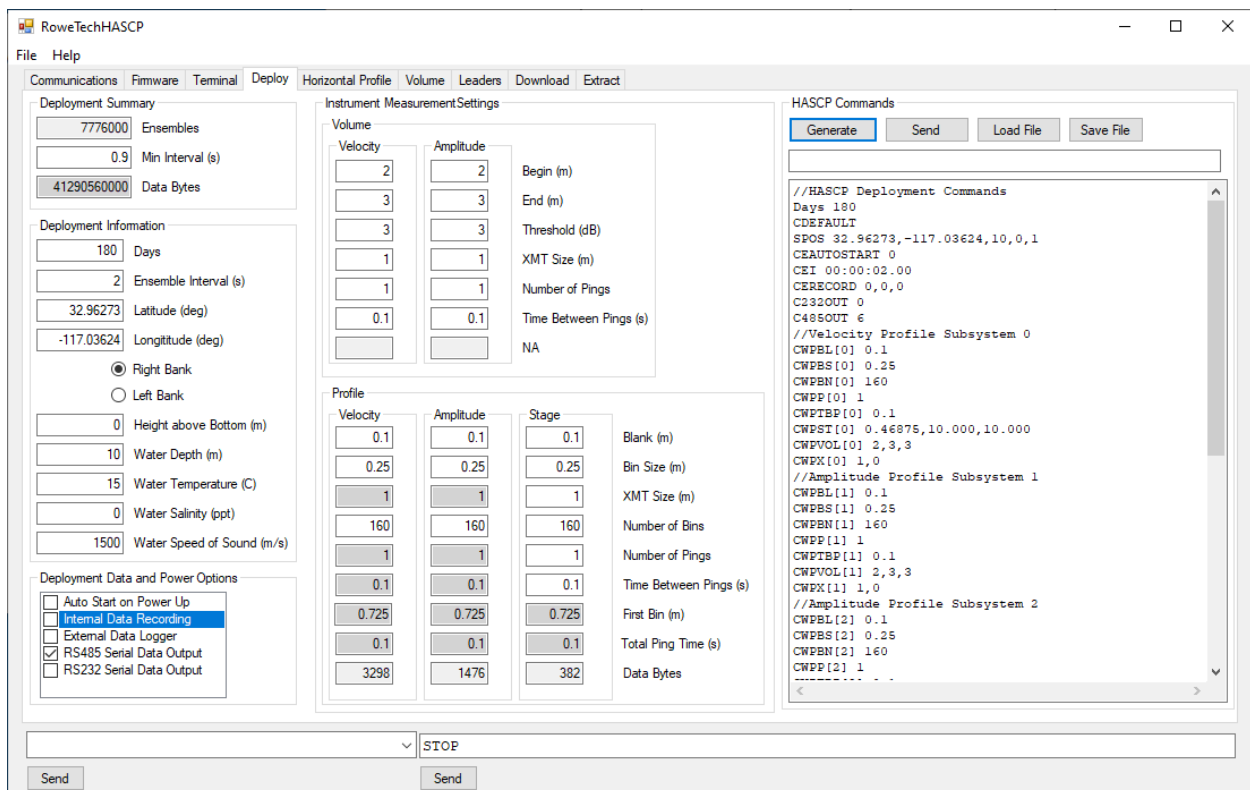

Figure 7. Deploy Page summary showing an example setup
- a. Click the Deploy TAB near the top left of the software window. Refer to Figure 7.